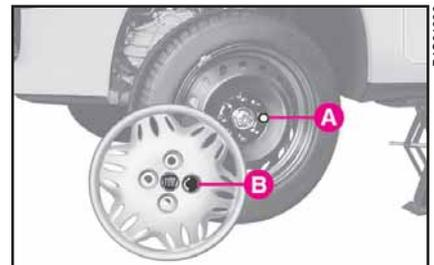

fig. 6
7) Remove the wheel cap having removed the three bolts securing it. Then loosen the fourth bolt **A**-**fig. 6** and remove the wheel.
2) Refit a regular wheel inserting the first bolt **A-fig. 6** in the hole opposite the inflation valve.